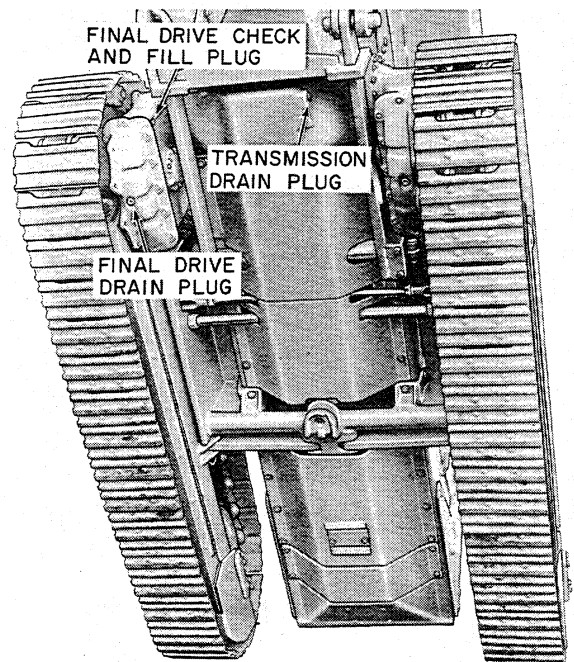

Figure 21
3. Remove the transmission drain plug and allow the system to drain completely, see figure 21.
Check the final drive oil levels every 100 hours. With the Crawler on level ground, remove the oil level plug located on each final drive housing, see Figure 21, and inspect the oil level. The oil level must be even with the plug.
Drain the final drives after every 500 hours operation, or twice a year, whichever occurs first. See Figure 21 for the location of the drain plugs.